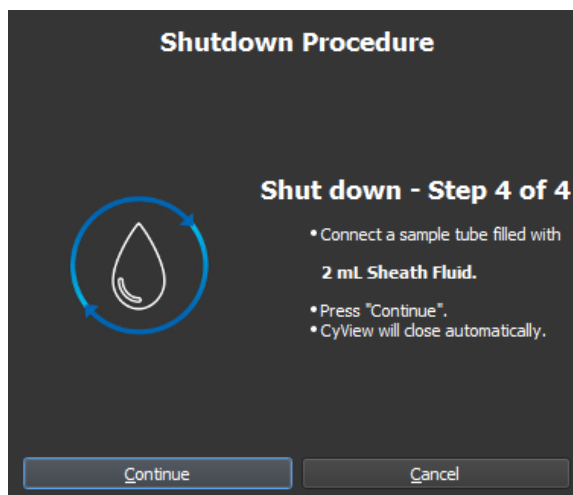

Figure 32. Figure 1. Steps of the Prime programme The software will shut down automatically once the process is complete. You can now shut down the PC
9. Follow the instructions in the shutdown programme, see Figure 32. Once the device has shut down, the CyView™ software closes automatically.